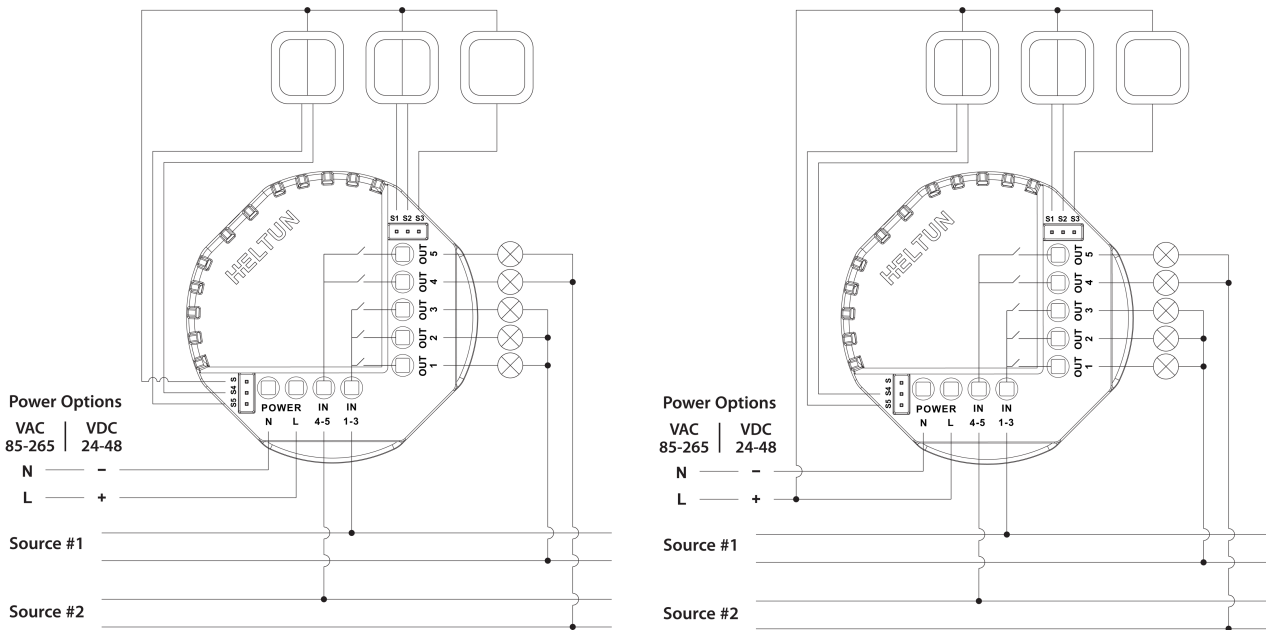

Figure 2: Power, Loads & External Switches Connection Diagram
2. Insert power wires into the HE-RS01 “POWER” terminals by inserting a small Phillips-head screwdriver in the slot beneath each terminal and unscrew to open. Follow *Fig. 2: Connection Diagram* and instructions below:
- Next, connect terminals S1, S2, S3, S4, S5 to external control keys (switches) following Fig. 2 left diagram or Fig. 2 right diagram.
Note: In case of using Figure 2 right diagram, it is MANDATORY to connect external switches to the same wire connected to terminal L on the device.